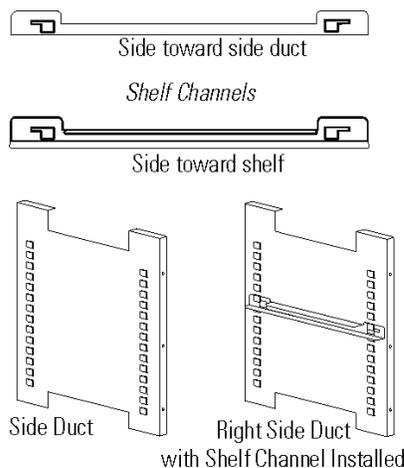

Figure 1-8
1. Install the large sheet metal shelf supports with the tabs facing into the center of the chamber with their slots up. There are no right side or left side supports, simply turn one of them to fit the opposite side. Tilt the shelf supports as they are placed in the chamber so the tops fit into the top air duct, then guide them into the vertical position. Figure 1-8 shows the support as it would be oriented for the right side of the chamber.